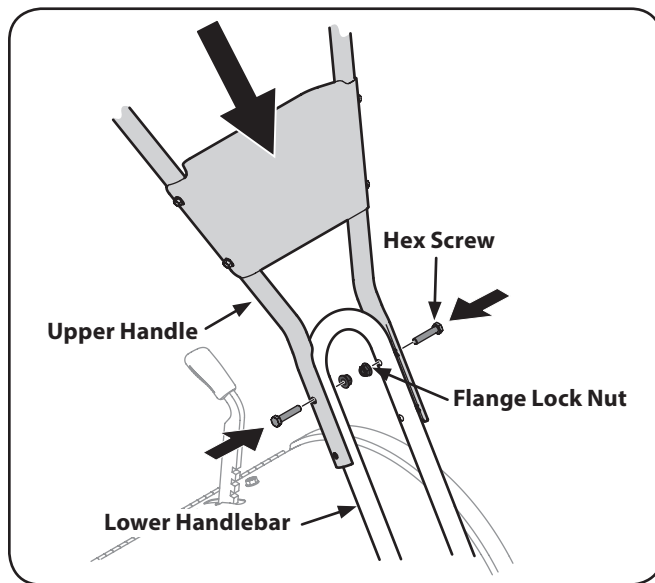

Figure 3-2
- Using two hex screws and two flange lock nuts, loosely attach the upper handles to the lower handlebar using the upper holes. Tighten the two screws securely. See Fig. 3-2.